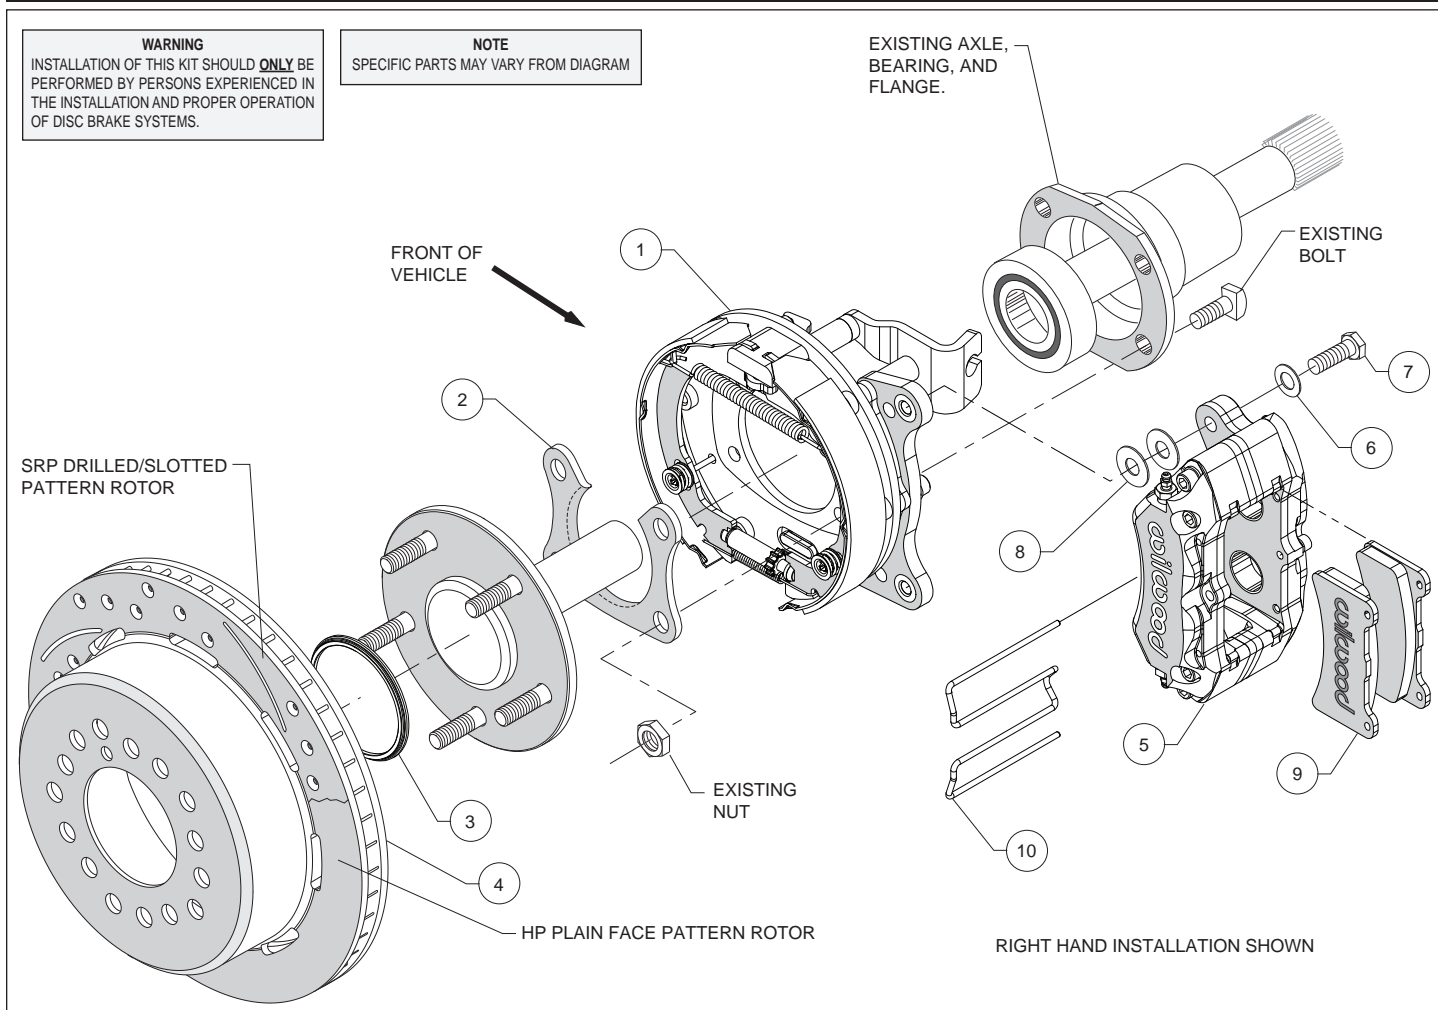
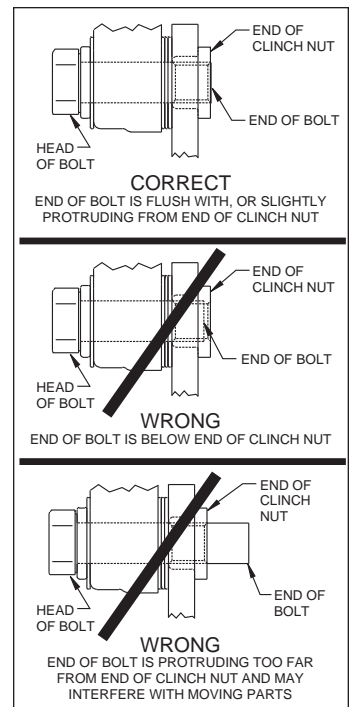

Figure 1. Typical Installation Configuration
Figure 5. Clinch Nut Engagement Diagram
**Assembly Instructions** (numbers in parenthesis refer to the parts list, and Figure 1 on the preceding pages): **CAUTION:** All mounting bolts must fully engage clinch nuts. Be sure to check that all bolts are either flush or protruding through flanged side of clinch nut after shimming, Figure 5.
- Orient the bracket assembly (1) as shown in Figure 1 and Photo 1 and slide it onto the axle. Insert the axle and bracket into the axle housing. Ensure that the bracket assembly backing plate fits flush against the axle housing flange.
- Install the bearing retainer (2) with the opening pointing upward and the lip facing inward (toward the bearing), as shown in Figures 1 and 4, and Photo 2. Secure retainer and bracket assembly to the axle housing flange using the Original Equipment Manufacturer (OEM) bolts and nuts, Figure 1. Apply red *Loctite*® 271 to the OEM bolt threads and torque to OEM specifications.
•Slide the rotor registration adapter (3) onto the axle register on the axle flange with the smaller O.D. facing toward the rotor/hat (4), Photo 3. Align the correct hole pattern in the rotor/hat with the stud pattern on the axle flange and slide into place, Figure 1 and Photo 4. **NOTE:** The rotor/hat must fit flush against the axle flange or excessive rotor run out may result. Install three lug nuts (finger tight) to keep the rotor/hat assembly in place while continuing with the installation. **NOTE:** Some OEM and after market axles come with stud sizes larger than 0.50" diameter. Verify stud size and have a qualified machine shop drill the bolt circle of the hat/rotor to the correct stud size, if necessary.
•**NOTE:** Please reference the caution statement at the beginning of the assembly instructions. Mount the caliper (5) onto the caliper mounting bracket (1) using bolts (7) and washers (6), as shown in Figure 1. Initially place two .035" thick shims (8) on each bolt between the caliper and the bracket, Photo 5. **NOTE:** For forward mounted calipers only, the cable bracket must be temporarily removed to allow access to the upper caliper mount bolt. Remove the two flathead bolts holding the cable bracket to the parking brake backing plate, Photo 6. **DO NOT mix the bolts or spacers.** They must be reinstalled in the same locations as they were removed.
•Temporarily tighten the caliper mounting bolts and view the rotor (4) through the top opening of the caliper. The rotor should be centered in the caliper, Photo 7. If not, adjust by adding or subtracting shims between the bracket and the caliper. Always use the same amount of shims on each of the two mounting bolts. **NOTE:** The end of each bolt must be flush with or slightly protruding from the head of the clinch nut, as shown in Figure 5. If necessary place spare shims between washer (6) and caliper mounting ear to achieve the proper clinch nut engagement. Once the caliper alignment and clinch nut engagement are correct, remove the bolts one at a time, apply red *Loctite*® 271 to bolt threads, and torque to 40 ft-lb.